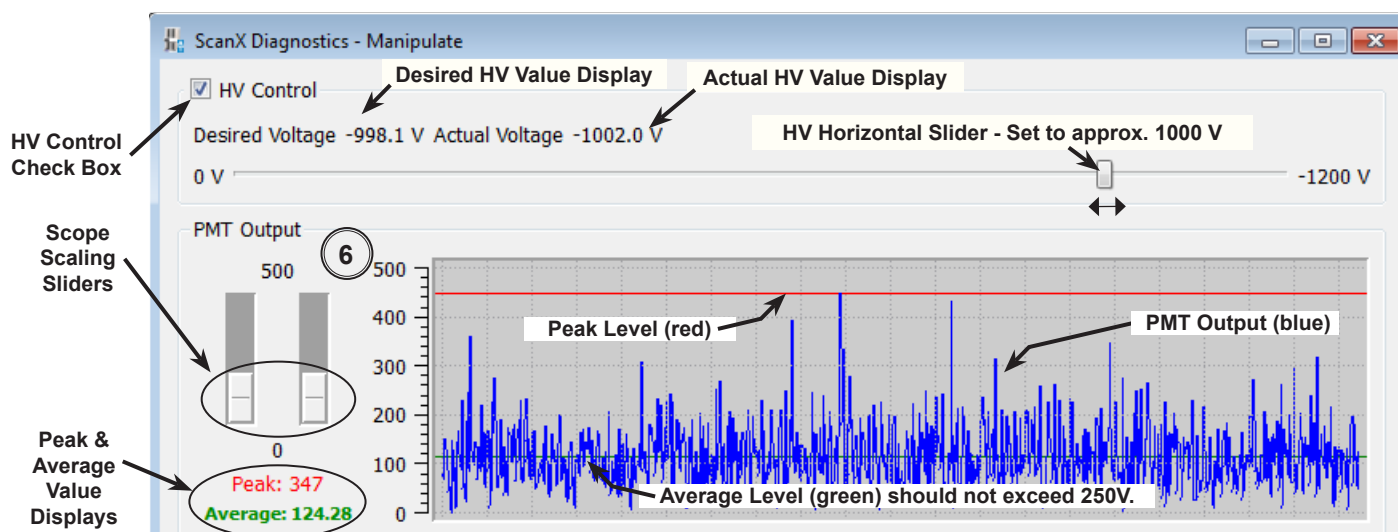

Figure 9. ScanX Light Tightness Test Section
12. Refer to Figure 9 and make sure that the vertical scope scaling sliders are set to about 450 and the **HV Control** horizontal slider is set to approximately 1000 volts as described previously.